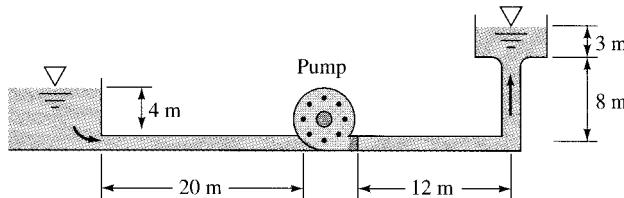

Fig. P11.66
**11.66** It is proposed to run the pump of Prob. 11.35 at 880 rpm to pump water at 20°C through the system of Fig. P11.66. The pipe is 20-cm diameter commercial steel. What flow rate in  $\text{ft}^3/\text{min}$  results? Is this an efficient operation?